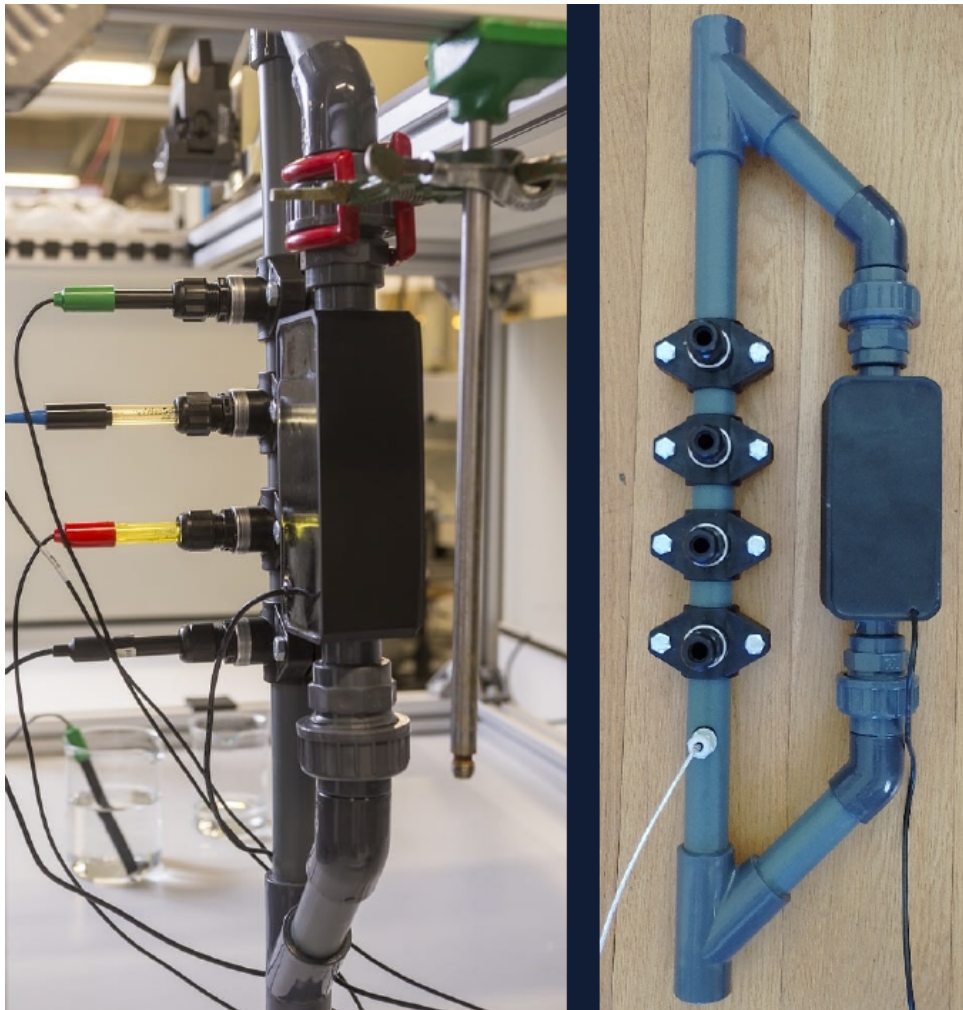

Figure 1: *The EcoSniffer with 32 mm PVC connectors and PC-based data logger.*
Figure 1 shows the footprint of the flow-through sensor system.
- **Dimensions:** 710 mm × 210 mm × 110 mm, see figure 1. For the foot prints of the optional nitrate sensor and algae sensor, see figure 2.